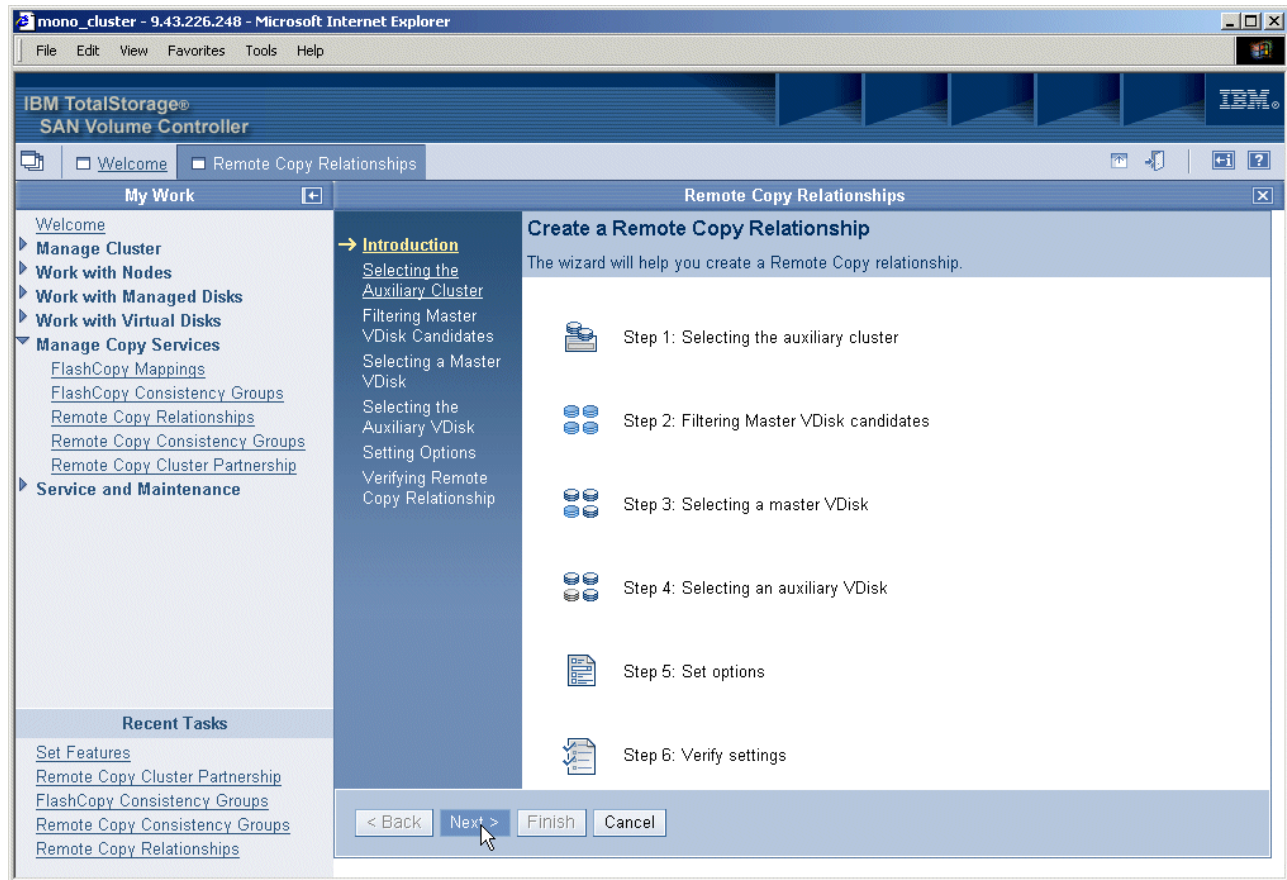

Figure 11-18 Create a Remote Copy Relationship wizard
3. The Remote Copy Relationships wizard (Figure 11-18) opens. Click **Next**.